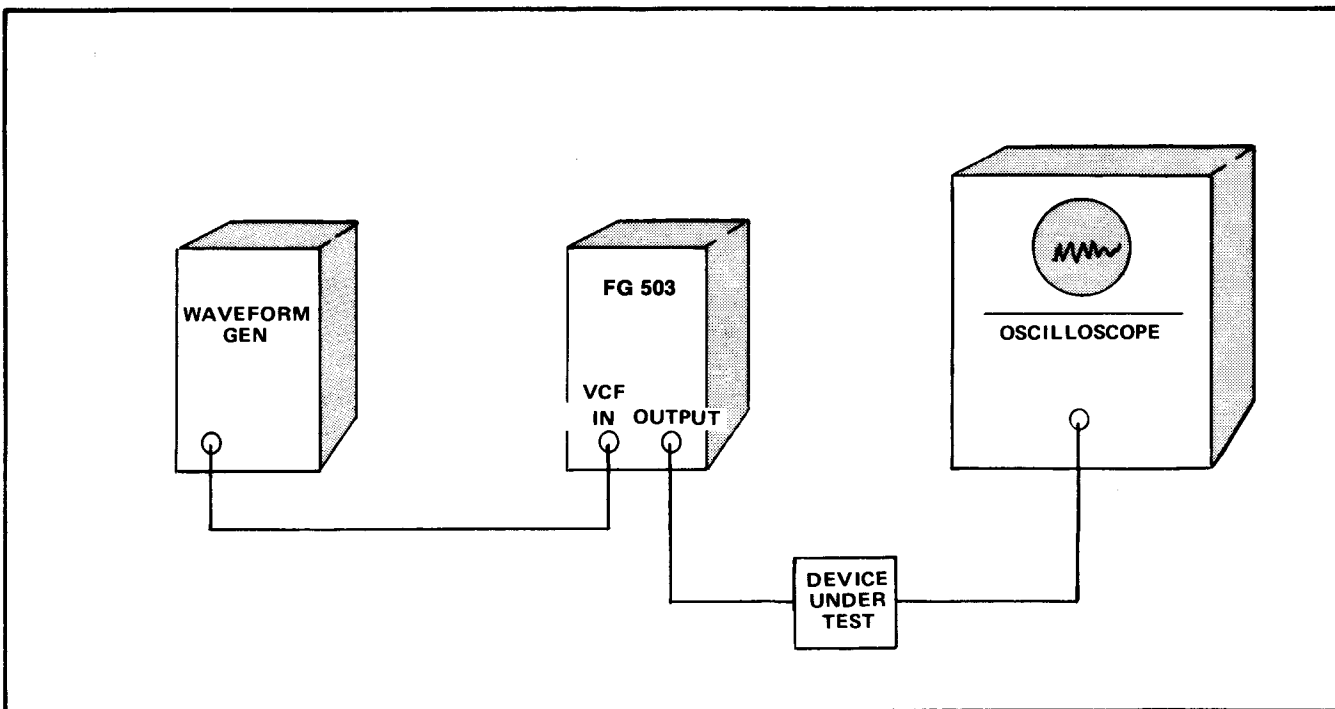

Fig. 1-8. Analyzing circuit or system response.
1. Connect the equipment as shown in Fig. 1-8.